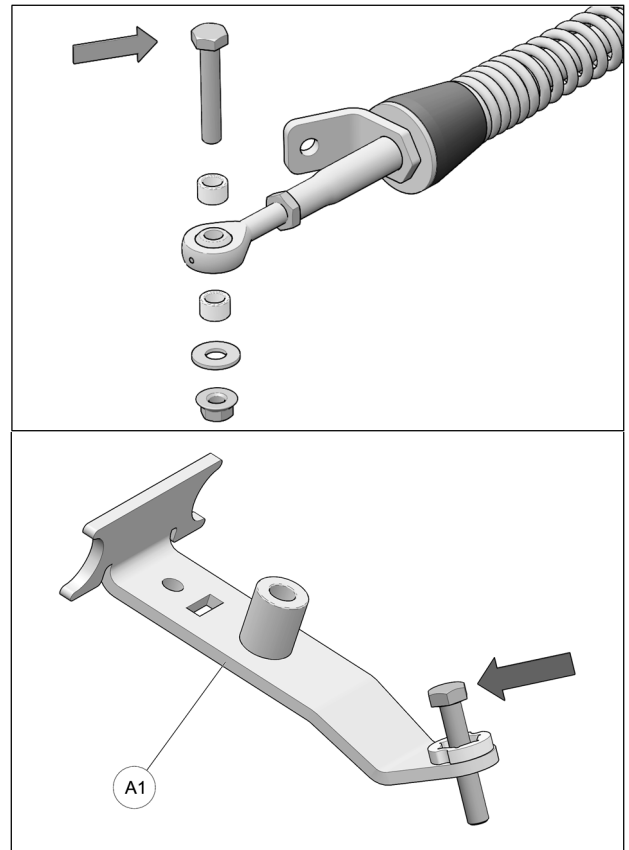

Fig. 9
- Remove bolt, washer and bushings from front stabilizing rod end and insert bolt in front anchor bracket (A1) as shown in Fig. 9